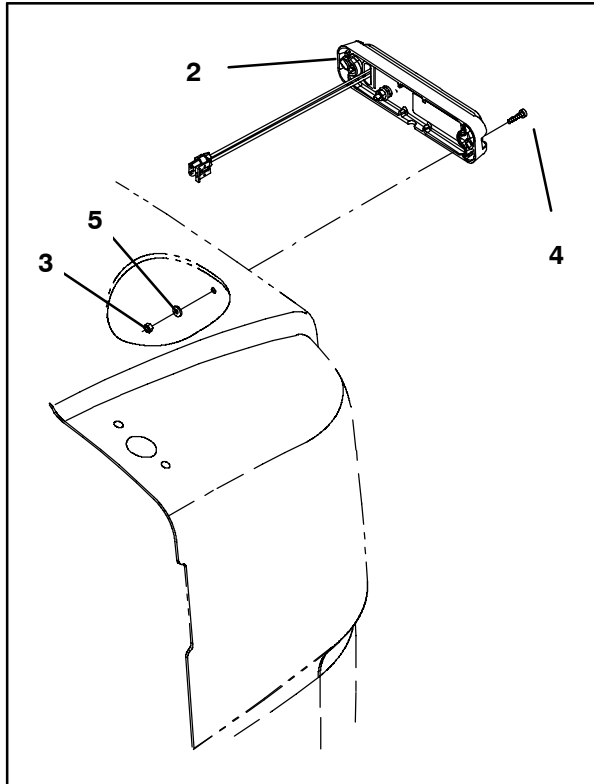
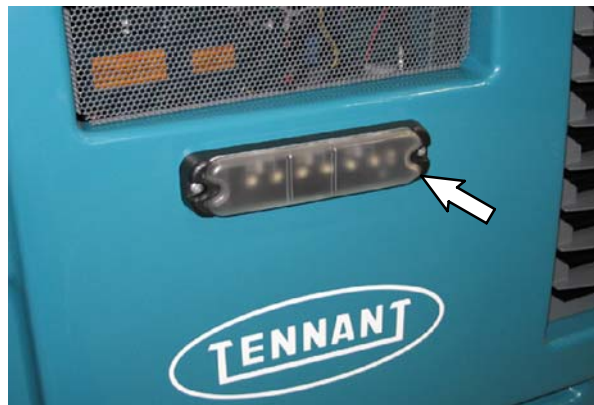

FIG. 6
FIG. 7
11. Route the back light (2) cable through the hole in the rear engine cover and use two pan screws (4), two washers (5), and two hex nuts (3) to install the light onto the cover. Refer to Fig. 6 and Fig. 7.